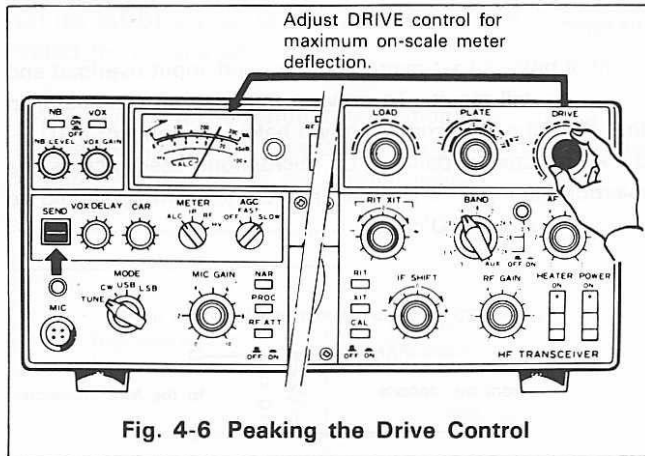

Fig. 4-6 Peaking the Drive Control
- Place MODE switch to TUNE, METER switch to ALC. Peak the DRIVE control. If the meter pegs or goes out of the ALC range, reduce the CARRIER control setting for an on-scale reading. (the CAR control is a level adjustment, while the drive control is a resonating adjustment.) Fig. 4-6